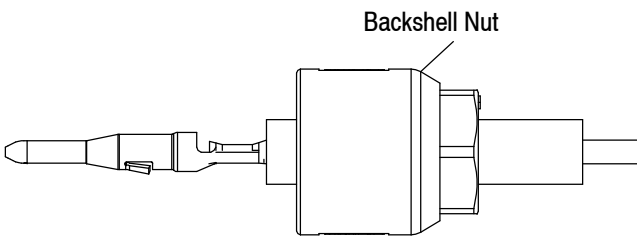

Figure 3
1. Place backshell nut onto wire as shown in Figure 3.